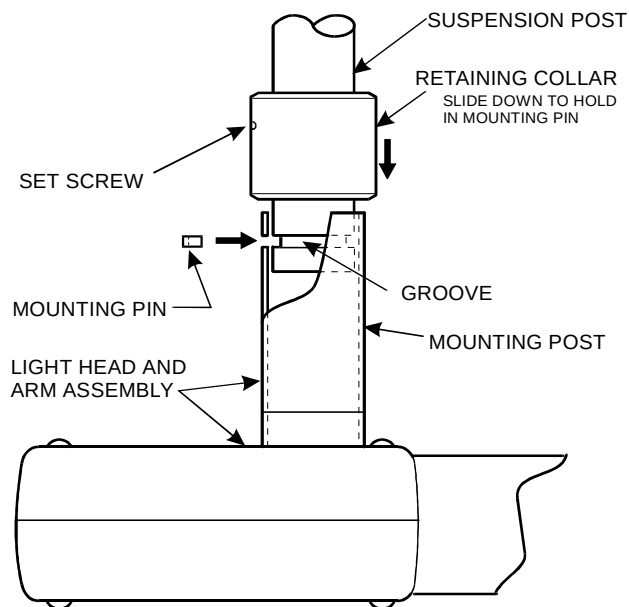

Figure 5
5. Slide the retaining collar up and insert the mounting pin into slot in the mounting post. This pin will rest in the groove on the suspension tube (See Figure 5).